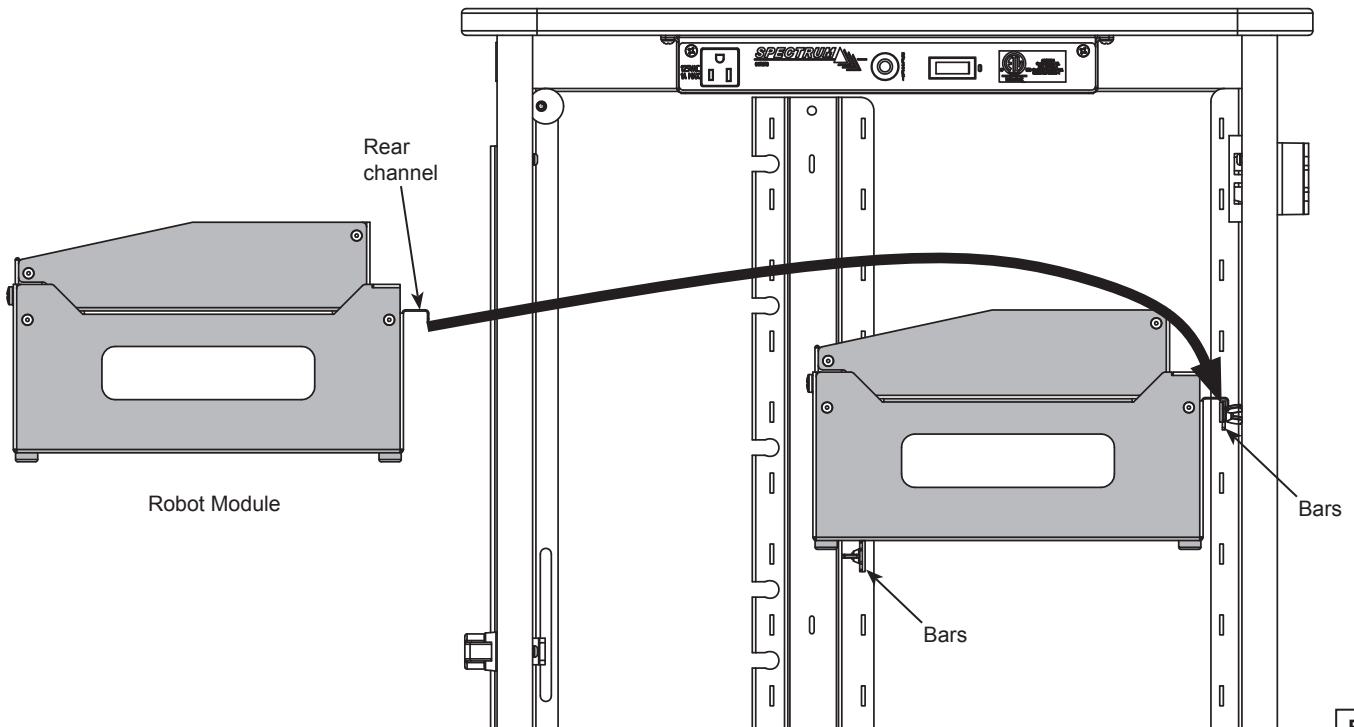

Figure 7
1. Carefully set the empty module onto both sets of bars. Be sure the rear channel "hooks" the rear set of bars fully. **Figure 7.**